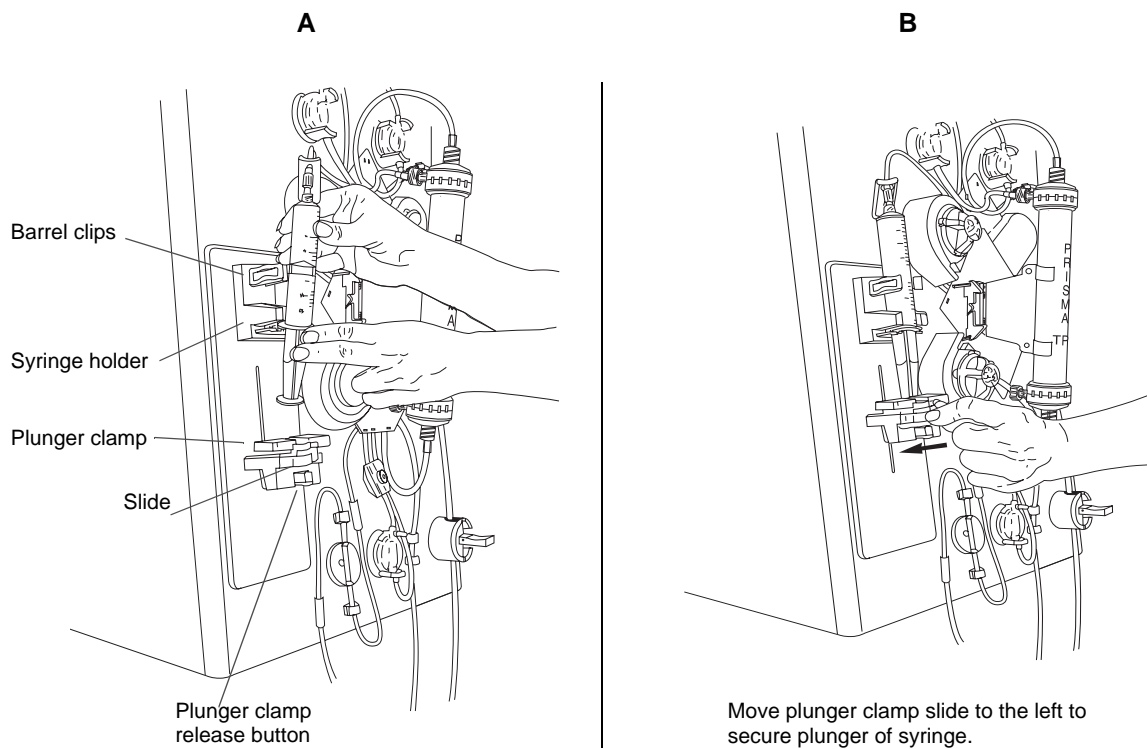

Figure 16. Installing Anticoagulant Syringe with the PRISMA TPE Set
(See Figure 16)
4. Install the full syringe, following Steps 5 through 7 under "Initial Syringe Installation." See Figure 16.